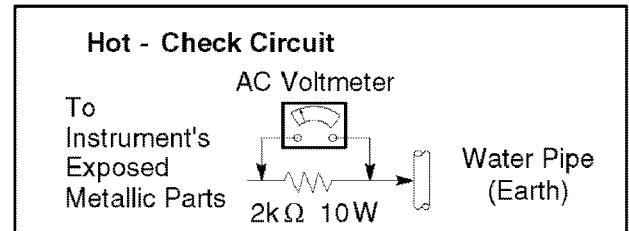

Fig. 3
4. Check each exposed metallic part, and measure the voltage at each point. Fig. 3.
1. Receive a 3.58 MHz NTSC rainbow pattern  2. Connect oscilloscope to A21 pin 6.  3. Set controls: BRT.....CENTER COLOUR.....CENTER CONTRAST....MAX NTSC TINT.....CENTER AI.....OFF	1. Adjust Sub NTSC Tint so that the peak of level of waveform is similar to Fig. 3  2. Receive the Rainbow pattern (3.58 MHz NTSC) on both of Main and Sub pictures.  3. Adjust Sub NTSC Tint 2 so that the peak of level of $1.3 \pm 0.5V$